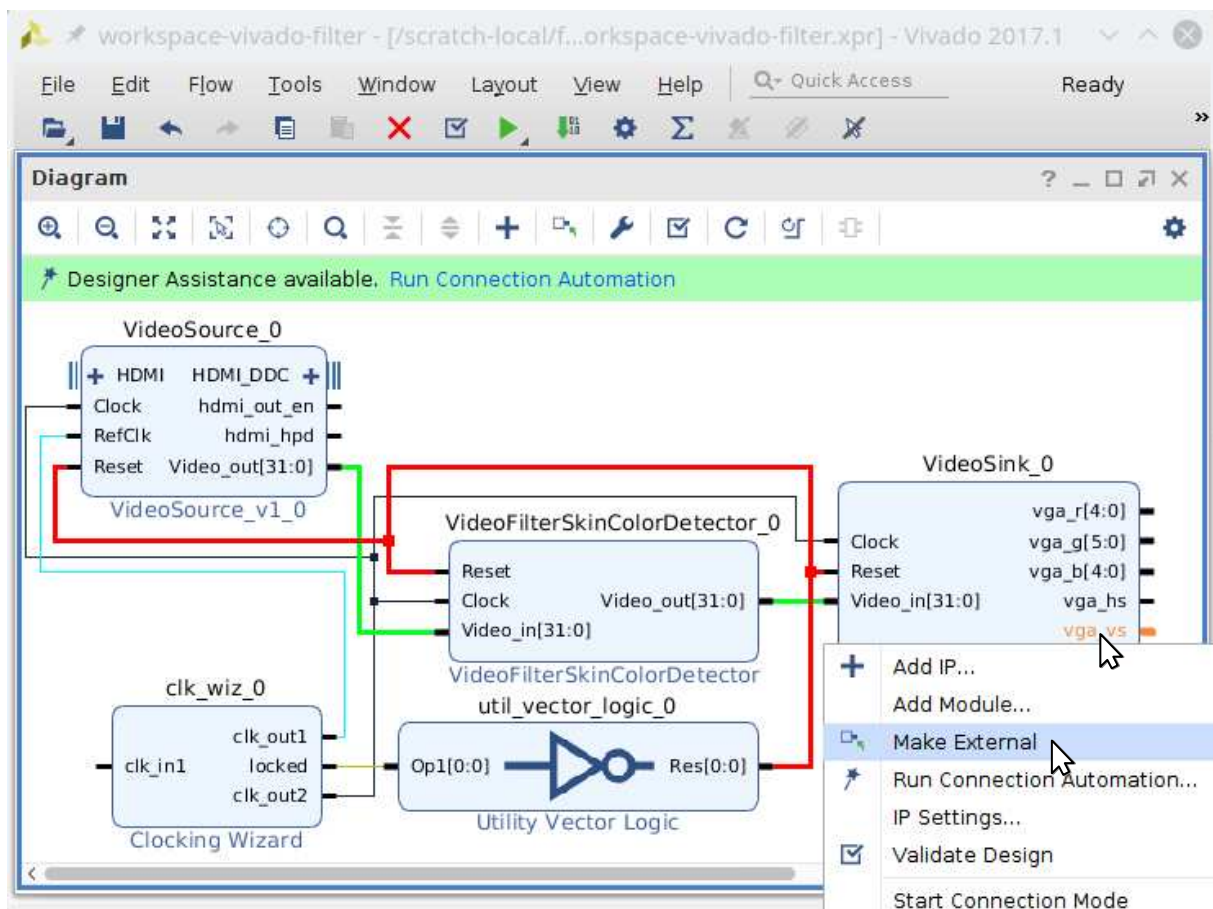

Figure 34: Make the inputs and outputs of the block design external
- r) After connecting these ports, the block design will look as shown in Figure 34. Subsequently, the remaining input and output ports have to be *made external* as these ports represent the interface to the ZCU102 board. Right click on the remaining input and output ports and select **Make External** from the pop-up menu. This should result in a block de-